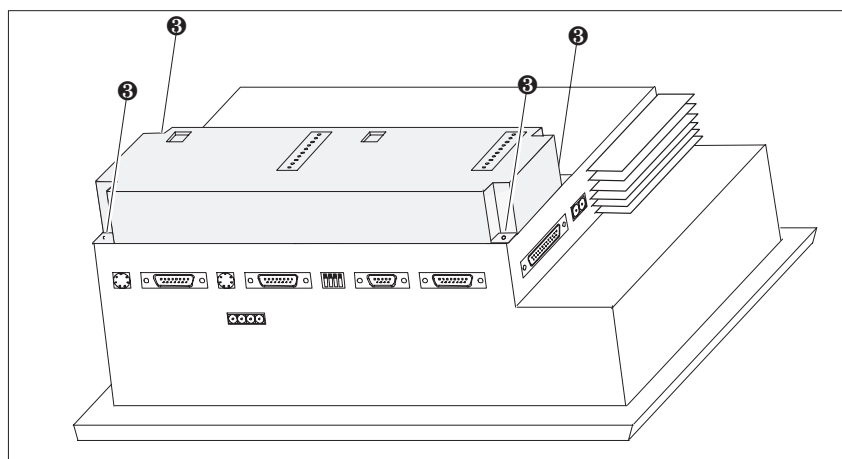

Figure 17-3 Securing the direct key module (example: TP37)
4. Secure the direct key module to the Touch Panel using the four screws ③ enclosed (illustrated in an example of the TP37 in figure 17-3).